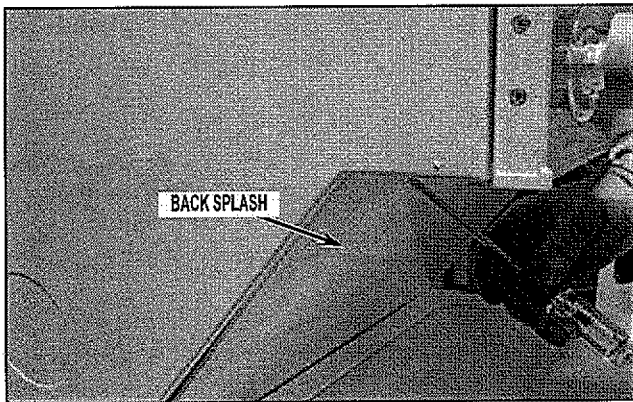

FIGURE 1
2. Remove back splash. See *Figure 1*.